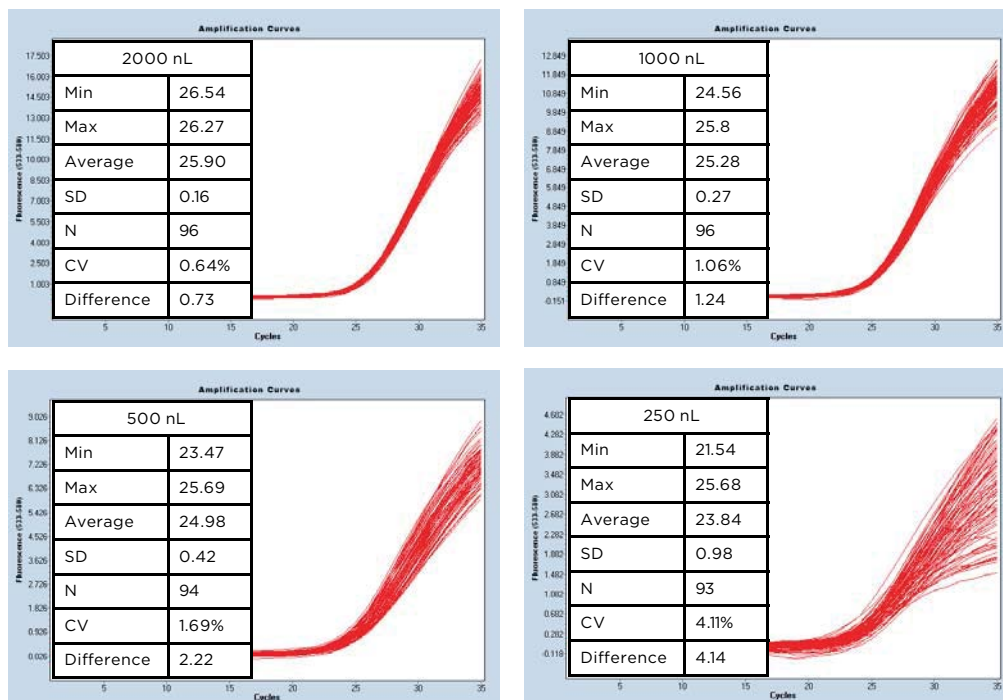

Figure 1: Cp amplification curves at decreasing volumes
Resulting data demonstrated an increasing endpoint signal which directly corresponded to the total reaction volume in the plate (Figure 1). Excellent standard deviations for 2000 nL and 1000 nL volumes were 0.16 and 0.27, respectively, with coefficients of variation (CV) of 0.64% and 1.06%, respectively. Decreased volume below 1000 nL resulted in higher standard deviation and CVs, with a maximum of 4.11% for a 250 nL reaction volume.